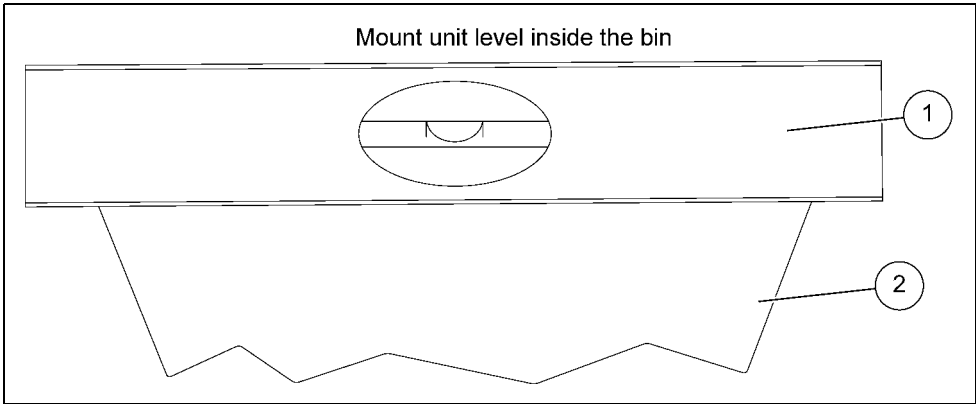

Figure 4A Mount Spreader and Check with Level
- 4. Once unit is installed, use a carpenter's level (1) across the top of the spreader cone to confirm it is level in all directions. (See Figure 4A.)